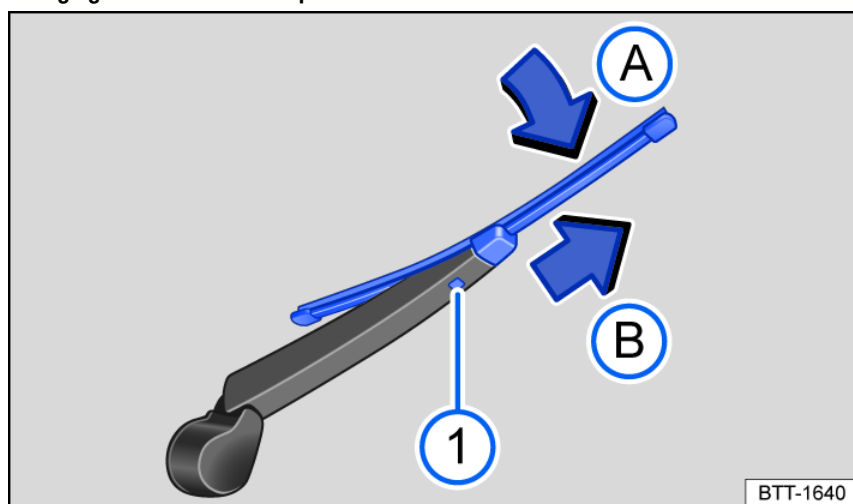

Fig. 170 Changing the rear window wiper blade.
3. Press and hold the release button *fig. 170* .
4. Tilt the wiper blade toward the wiper arm *fig. 170*  while removing it in the direction of the arrow . You may need to use more force to do this.
5. Slide a new wiper blade with the same length and design onto the wiper arm in the opposite direction to the arrow until it engages *fig. 170* . For this to work the wiper blade has to be folded out *fig. 170* .